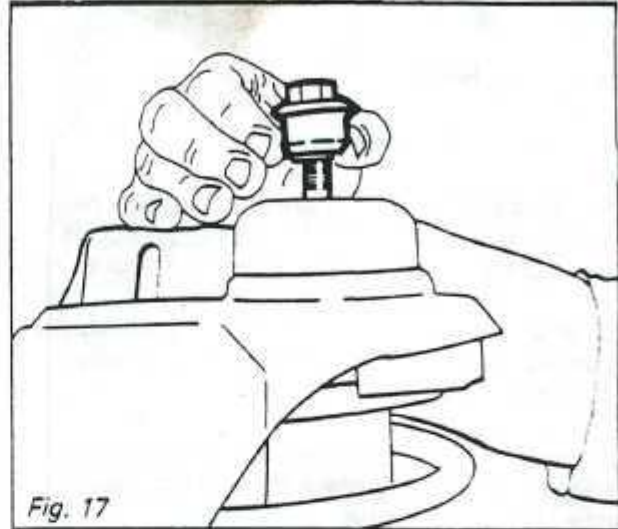

Fig. 17
3. Remove shock absorber upper mounting nut and remove shock absorber through the bottom of lower control arm. *Fig. 17*